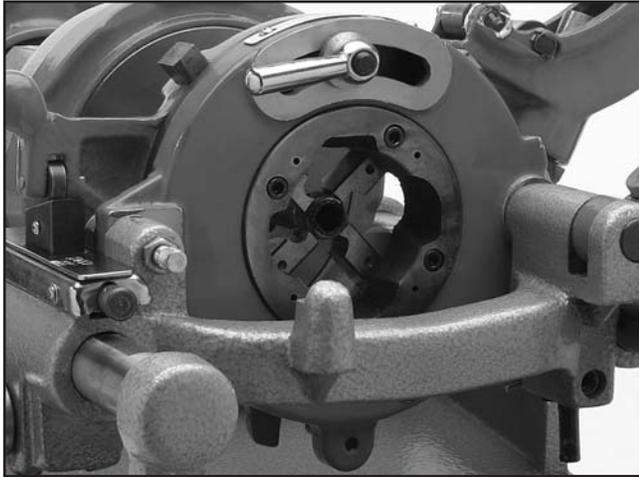

Figure 11. Threading the end of the pipe with the threading tool.
6. Turn the carriage handle clockwise to advance the threading tool toward the pipe, as shown in **Figure 11**, and make sure that cutting fluid is flowing freely out of the threading tool.